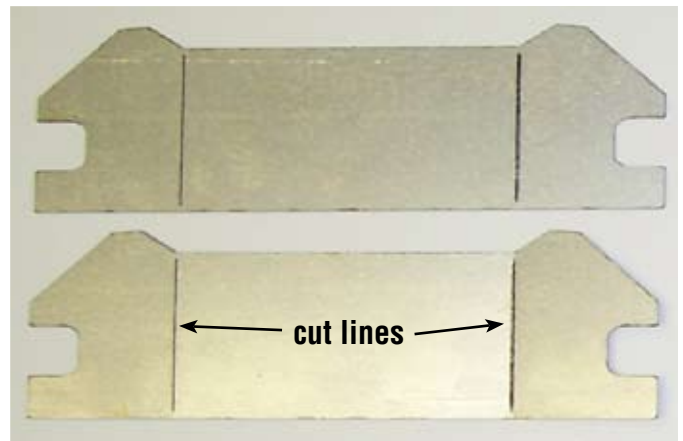

Figure 39
1. Remove the two log support brackets from the box and bend the ends of the brackets 90 degrees at the cut lines. See Figure 39.